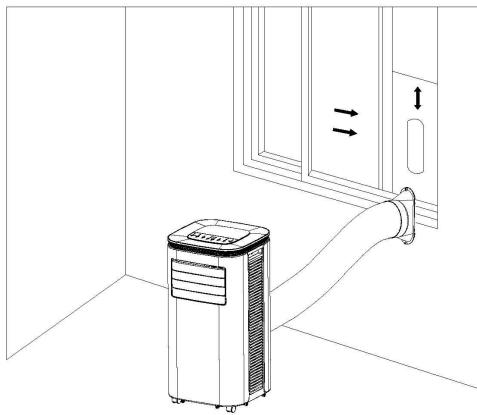
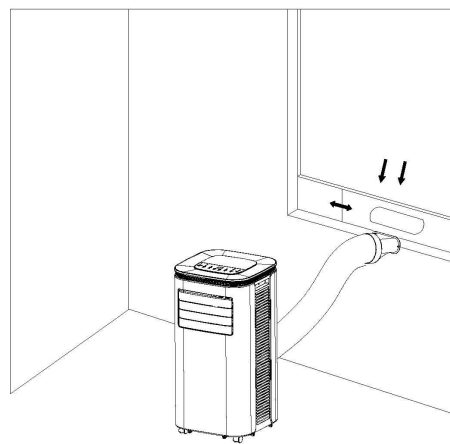

Figure 5
Figure 6
3) Elongate the exhaust pipe and snap the flat end of the exhaust pipe joints into the hole of the window sealing plate assembly (as shown in Fig.5 and Fig.6) .